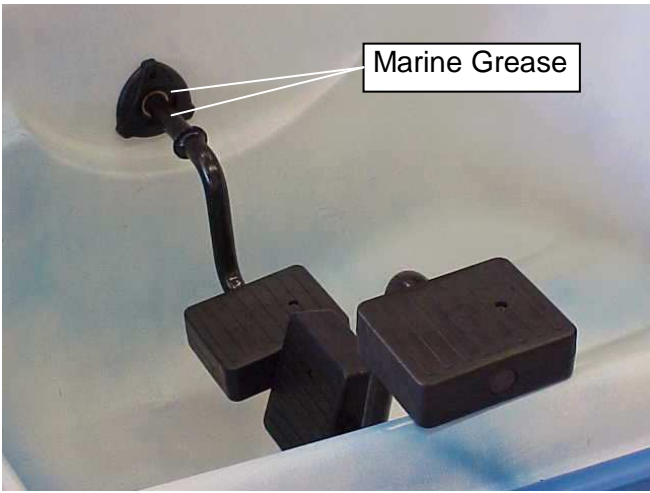

Figure 7.
6. Note—To simplify installation of Crank Shafts, and to reduce risk of damage to Bushings, remove the 3922 Bushing from the boat, lubricate the bushing bronze and the Crank Shaft on the bushing side of the welded stop washer, using a light coat of non-water soluble marine grease, and slide the 3922 Bushing onto the Crank Shaft. Then insert the Bushing / Crank Shaft unit into the boat. The Crank Shaft may be supported on the gunwale as shown in **Figure 7.**
1. If not previously accomplished during Crank Bushing Replacement section--lubricate the bushing hole and the crank shaft on the bushing side of the welded stop washer, using a light coat of non-water soluble marine grease. **See Figure 7.**